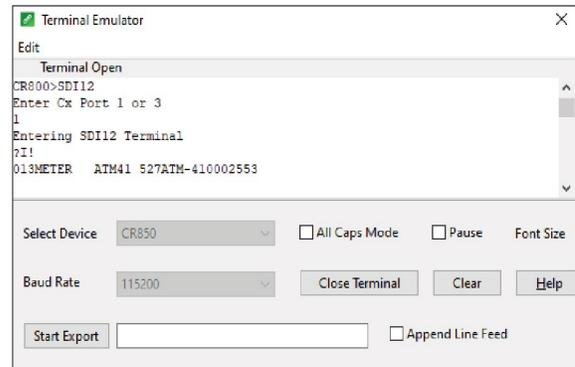

Figure 41. Sensor information
**XXXATM-41000XXXX** (Figure 41).